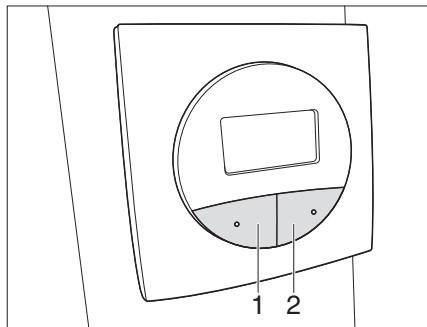

Fig. 40 Teleco satellite unit panel
- Press the SAT button (Fig. 40,2) **twice**. The satellite unit extends and searches for the set satellites automatically.
- Press the PARK button (Fig. 40,1). The satellite unit is retracted.